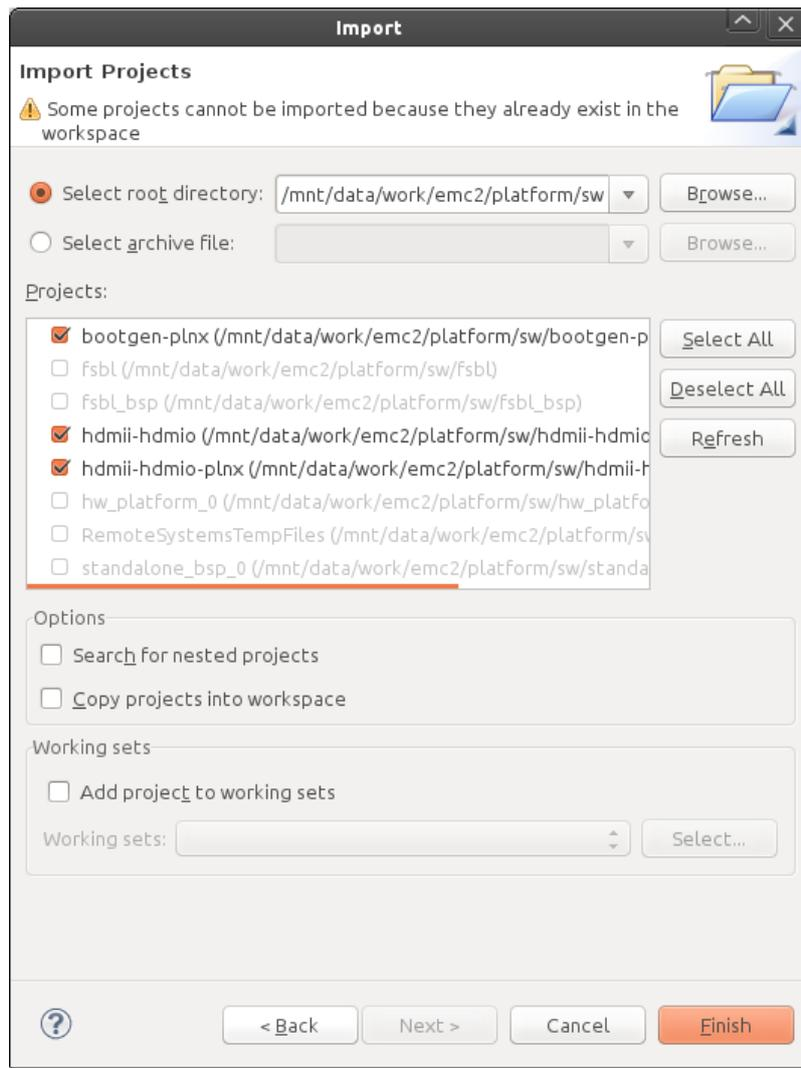

Figure 7: Import SW project into the SDK workspace.
5. Import prepared application projects into the SDK workspace, select menu *File*→*Import...*→*General*→*Existing Projects into Workspace*, browse to folder *sw* and select projects (Figure 7):